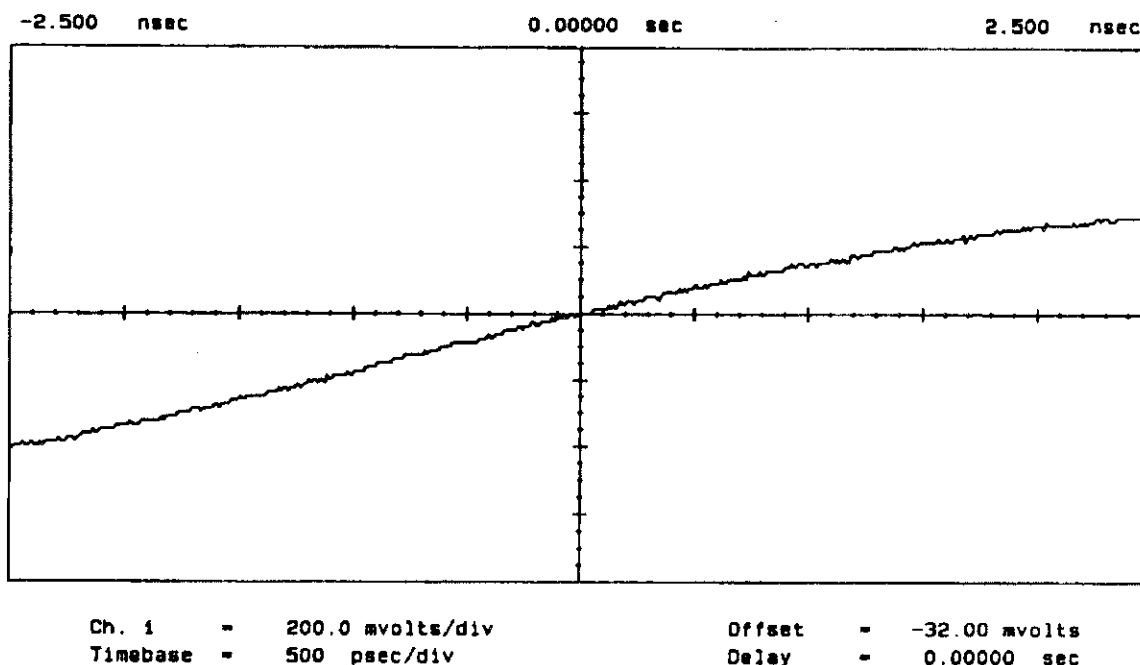

Figure 3-5. Channel 1 Signal Positioning on 54100A CRT Display
15. Rotate the 54100A RPG (rotary knob) until rising edge of channel 1 input signal crosses the X-axis at the grid origin. See *Figure 3-5*.